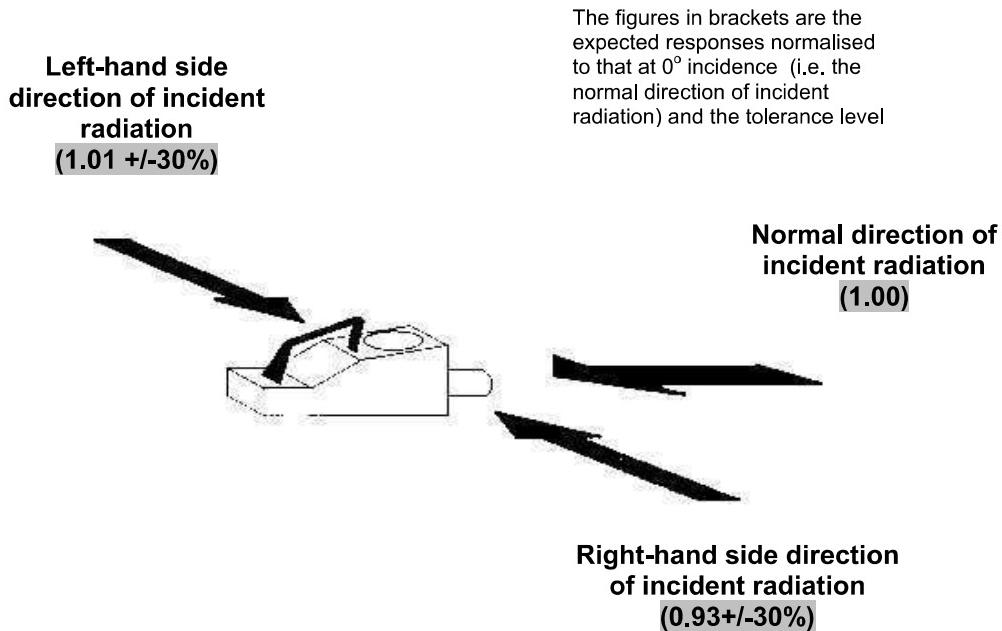

Figure 1: Expected Directional Dependency
– The responses shall reflect the responses detailed in Figure 1.